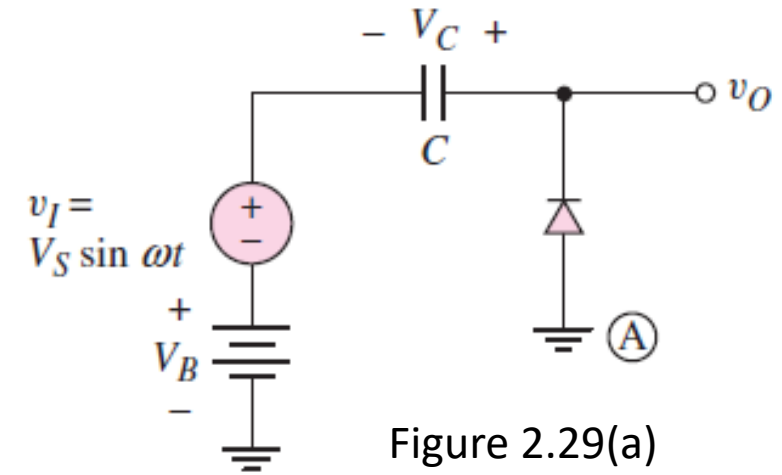

Figure 2.29(a)
- **Objective:** Find the steady-state output of the diode-clamper circuit shown in Figure 2.29(a).
• **Solution:** Figure 2.29(b) shows the sinusoidal input signal (in dashed lines).